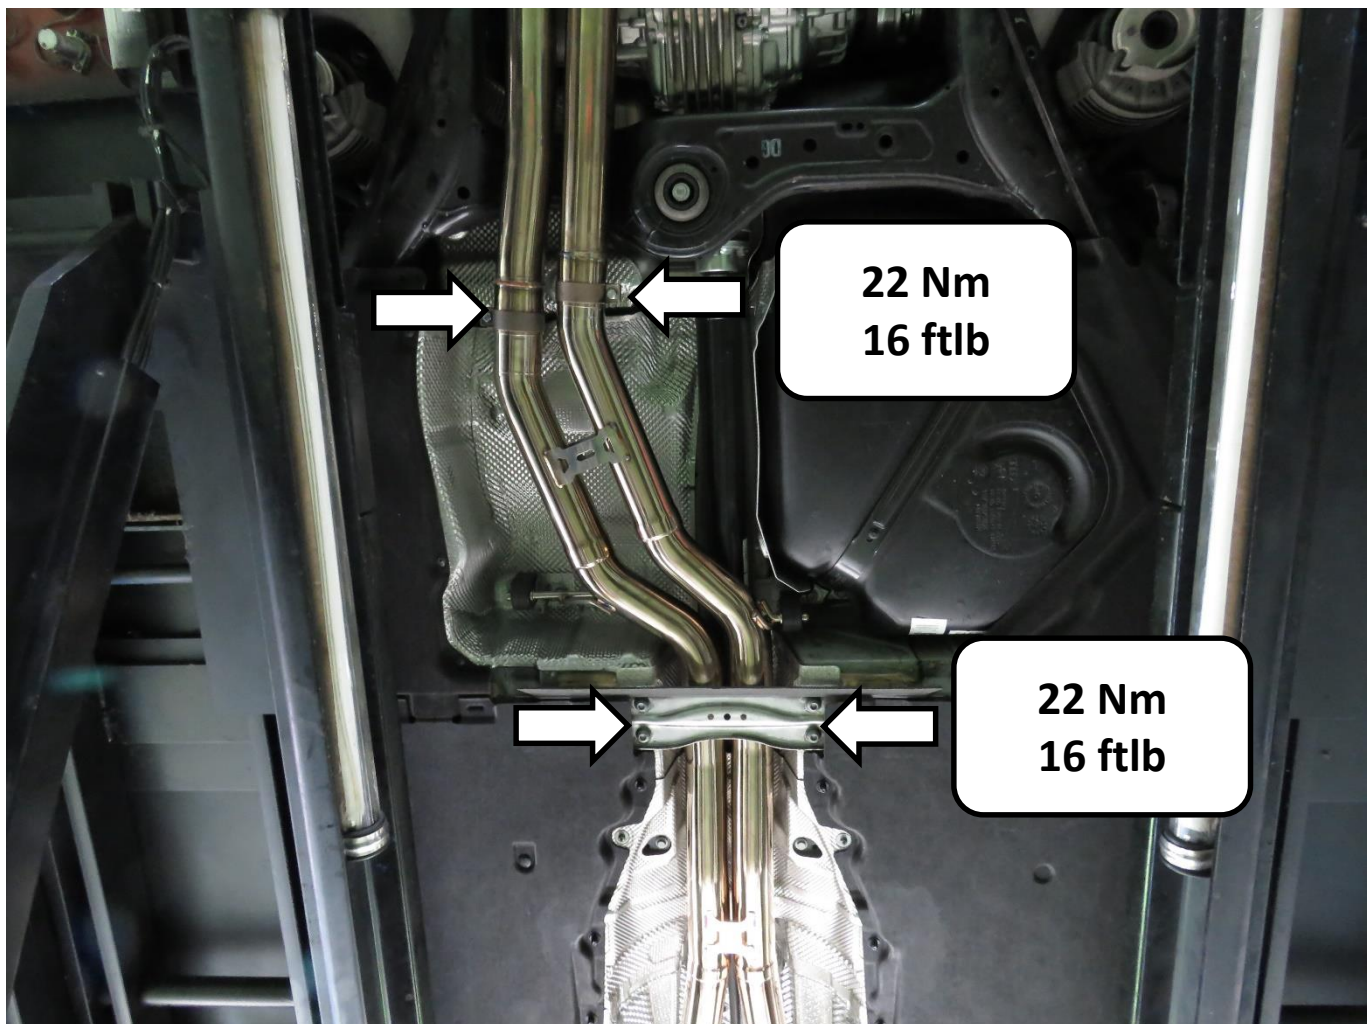

Figure 7
- 2) Place the mid part in position, The middle of the positioning should pay attention to the gap lock to avoid exhaust and car interference caused by touching and making noise (Figure 7).